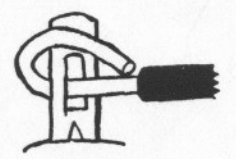

fig. 3b. Crimp the diode lead around the terminal.
2. Using a pair of needle-nose pliers, bend the free end of the lead around the terminal and back upon itself, as shown in figure 3b (CRIMP).
4. Insert the anode lead of the diode called forth in step I.(1) above into terminal lug number 1 of V802 tube socket, and repeat steps I.(2) and I.(3) above. This completes installation of one diode.
- J. 5. Insert the cathode lead of the other diode into terminal lug number 3 of V801 tube socket. Hereafter proceed with the wiring of this diode as described in steps I.(1) through I.(3) (CRIMP and SOLDER).
6. Insert the anode lead of the diode called forth in step J.(5) immediately above into terminal lug number 1 of V801 tube socket, and proceed with the wiring of the diode as described in steps I.(1) through I.(3) above (CRIMP and SOLDER). This completes installation of the other diode.